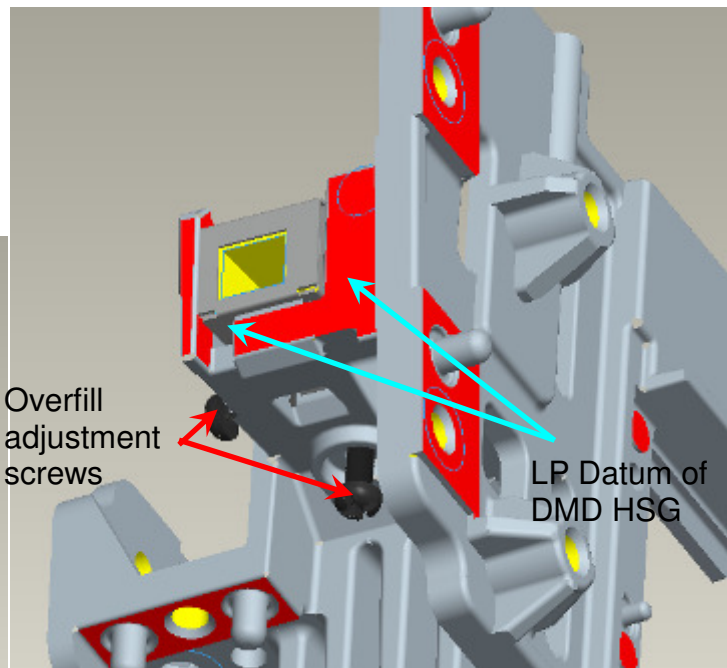

Fig. 1-13
- (4) Place LP Module on LP datum of “DMD HSG” and adjustment screw well (Fig. 1-13).